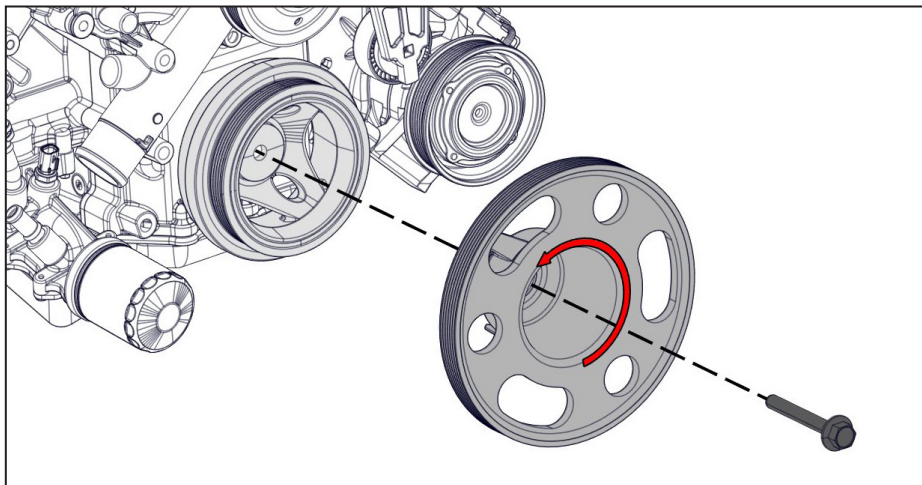

Figure 9 — Mount VMAC crank pulley
- ☐ Position the VMAC crank pulley on the OEM harmonic balancer and install the supplied crank bolt and washer finger tight (Figure 9).
- ☐ Rotate the VMAC crank pulley counterclockwise until the lugs on the back of the pulley are tight against the spokes on the OEM harmonic balancer; torque the crank pulley bolt to 133 ft•lb (Figure 9).